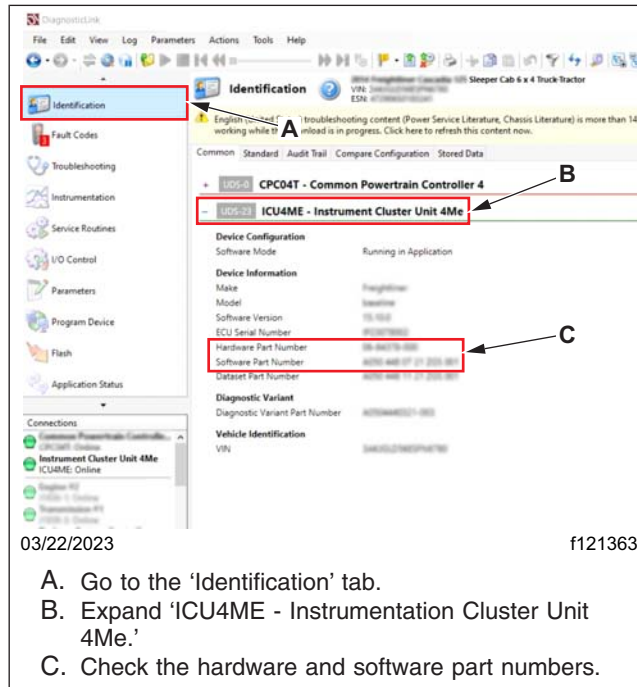

Fig. 1, Checking the Hardware and Software Part Numbers in DiagnosticLink
- 3.4 Go to the 'Identification' tab, then expand 'ICU4ME - Instrument Cluster Unit 4Me.' See Fig. 1.
- 3.5 Under 'Device Information,' locate the 'Hardware Part Number' and the 'Software Part Number.' See Fig. 1.
- 3.6 Compare the part numbers shown in Fig. 1 to those listed in Table 1.